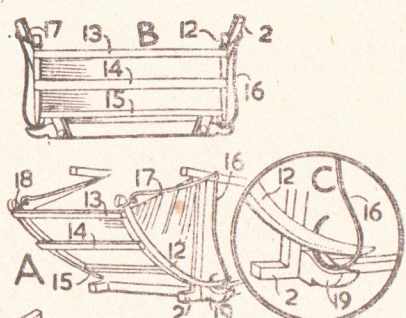

Fig. 3—Driver's foot compartment
At Fig. 3 are details of the front projecting portion forming the space for the driver's feet. The end pieces are of wire, fitted to the side, and then the space filled in with paper (it was leather in the original), and the cross struts added to the front at 13, 14 and 15. At right angles to the side, the wire (16) is fixed and the support given to its bottom end by part 19.